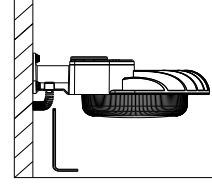

Figure 9
6. Fix the cover plate and fasten the screws (Figure 9).